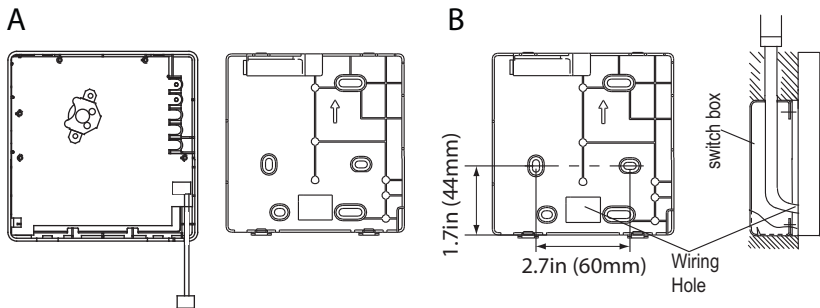

Fig. 7 — Wiring the controller
1. This manual provides the wired controller installation method. Refer to the wiring diagram (see Fig. 7 — on page 11) for guidance on wiring the wired controller to the indoor unit.